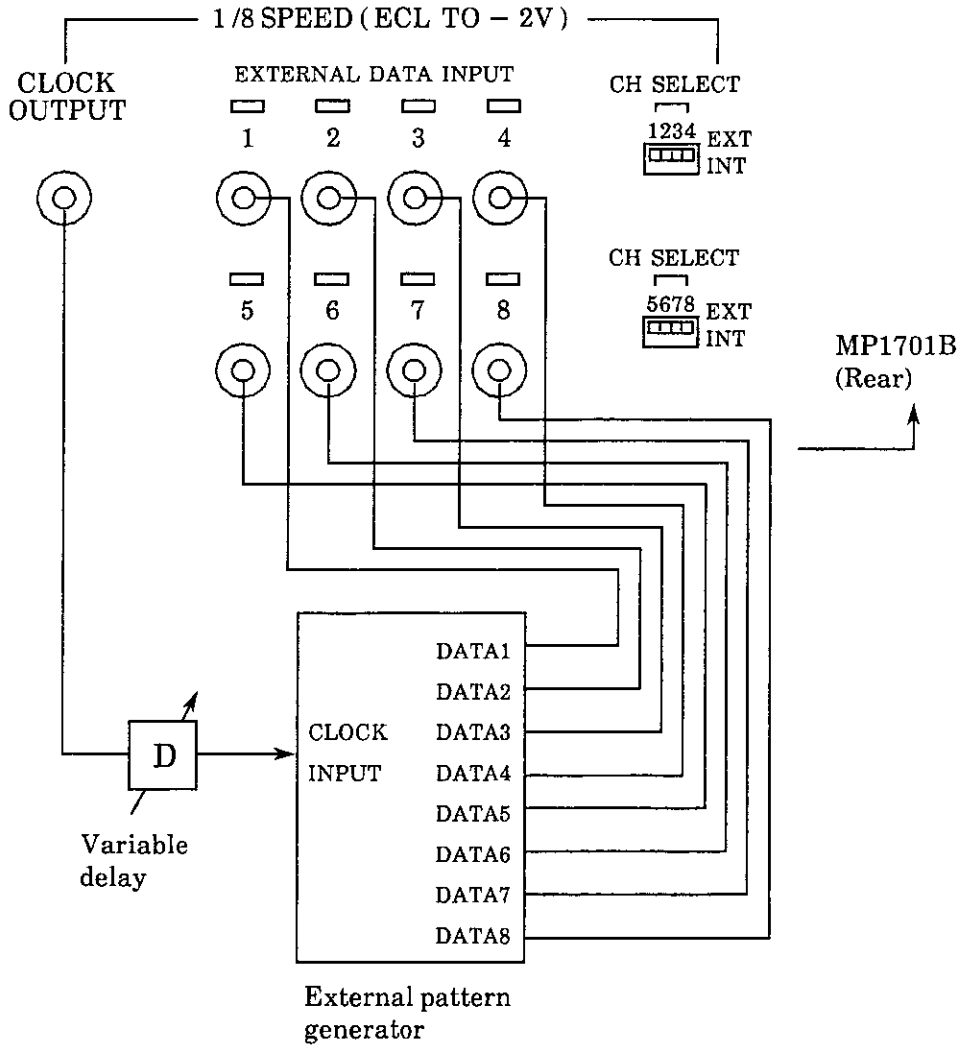

Fig. 5-11 External Pattern Input Setup
The MP1701B can be used as an 8:1 multiplexer by inputting external patterns to the rear 1/8 SPEED EXTERNAL DATA INPUT connector (34). An example is shown in Fig. 5-11.